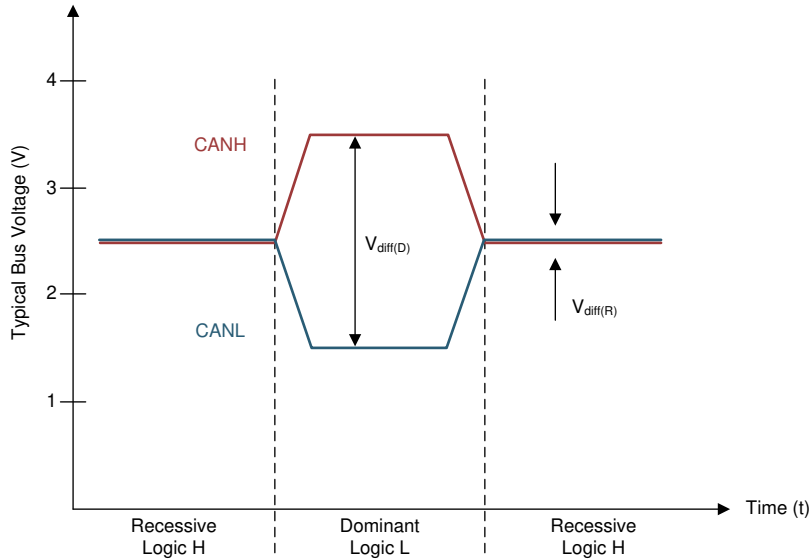
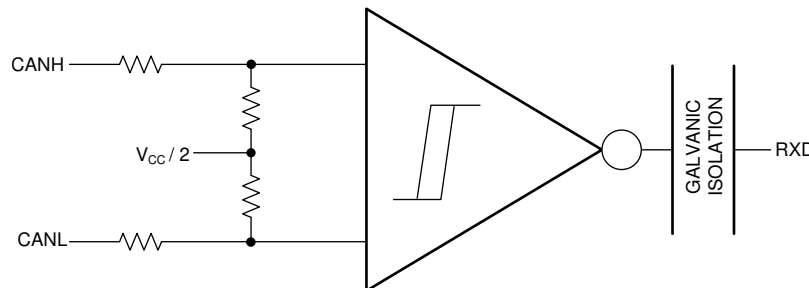

图 8-1. Bus States (Physical Bit Representation)
图 8-2. Simplified Recessive Common Mode Bias and Receiver
The CAN bus has two states during operation: *dominant* and *recessive*. A dominant bus state, equivalent to logic low, is when the bus is driven differentially by a driver. A recessive bus state is when the bus is biased to a common mode of  $V_{CC} / 2$  through the high-resistance internal input resistors of the receiver, equivalent to a logic high. The host microprocessor of the CAN node uses the TXD pin to drive the bus and receives data from the bus on the RXD pin. See Figure 8-1 and Figure 8-2.
(1) H = high level, L = low level, Z = common mode (recessive) bias to  $V_{CC} / 2$ . See 图 8-1 and 图 8-2 for bus state and common mode bias information.